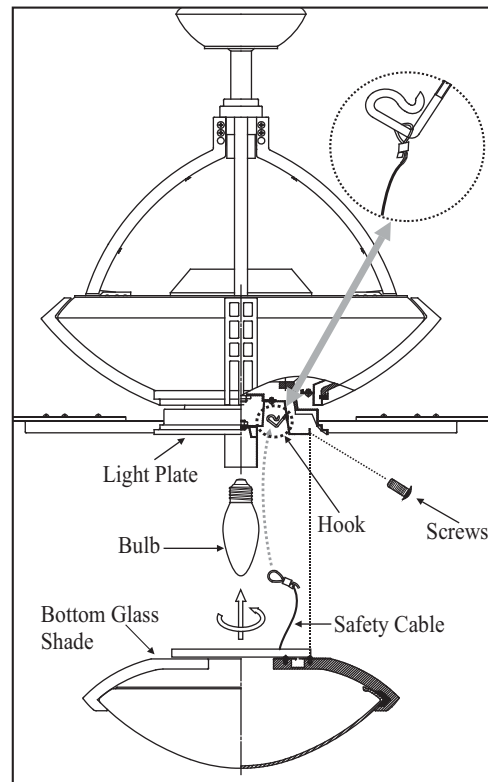

Figure 18
4. Install 60W candelabra bulb (included). (Fig. 18)
5. Raise the glass shade up against the light plate, place looped end of the safety cable over the hook located on the light plate. Install the glass shade onto the light plate with 4 screws provided. Be sure to tighten all screws. (Fig. 18)